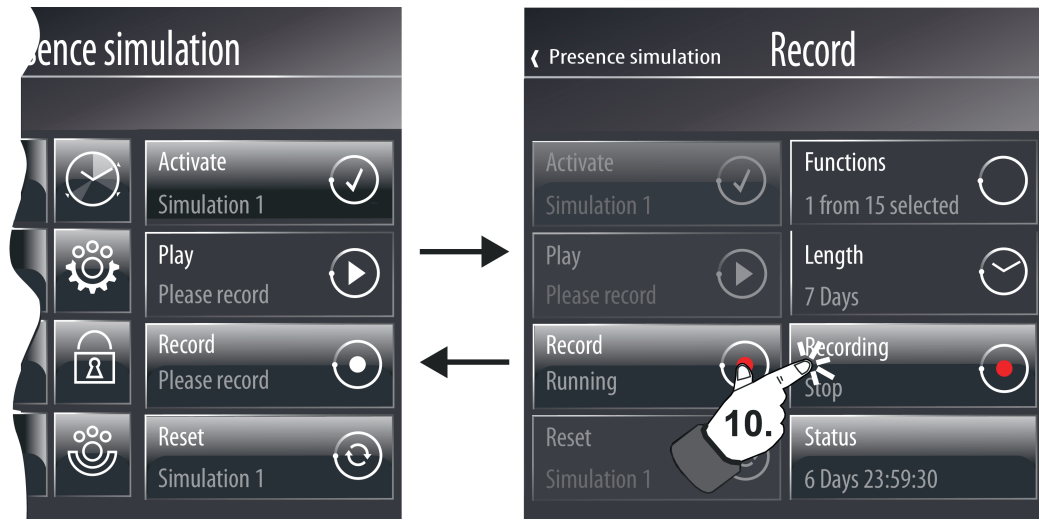

Figure 101: Example of a display page for starting and stopping a telegram recording
The recording can be started by tapping the "Record" button (10) (figure 101). This requires that at least one function was selected beforehand. Icon and status text of the operating and display element thus change the status whereby a started recording process is displayed.